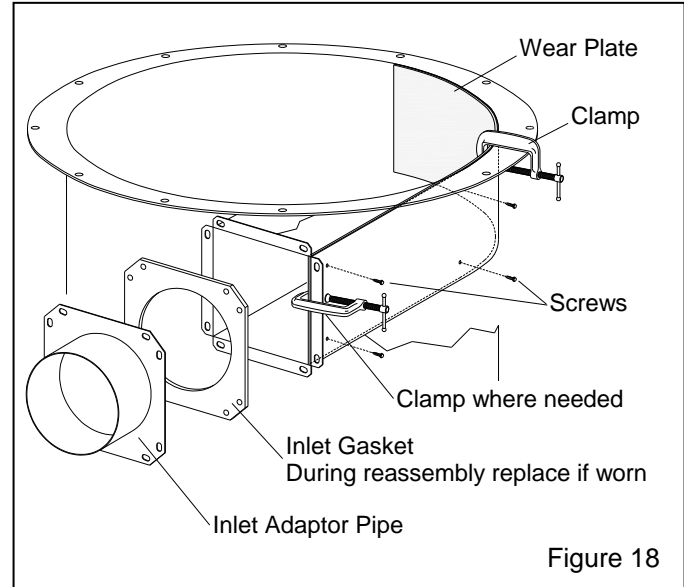

Figure 18
7.5.2 Reclaimer with bolt-on, removable top, Figure 18